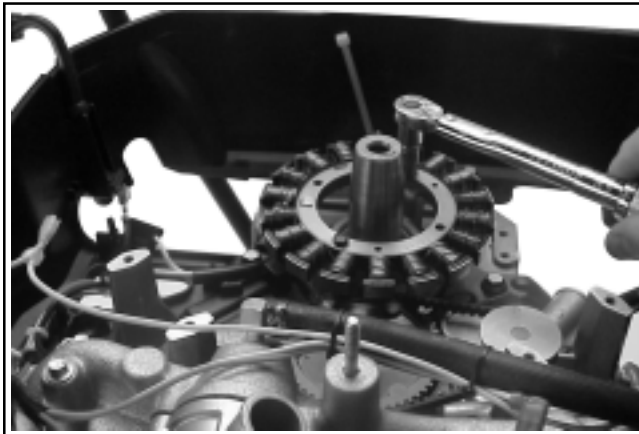

Figure 11-71. Torquing Stator Mounting Screw.
1. Position the stator onto the mounting bosses so the leads are at the bottom, and directed out toward the rectifier-regulator mount on the #1 side. Apply pipe sealant with Teflon® (not Teflon® tape) to the threads of the two stator mounting screws. Align the mounting holes and install the two hex. flange screws. Torque each screw to **6.2 N·m (55 in. lb.)**. See Figure 11-71.